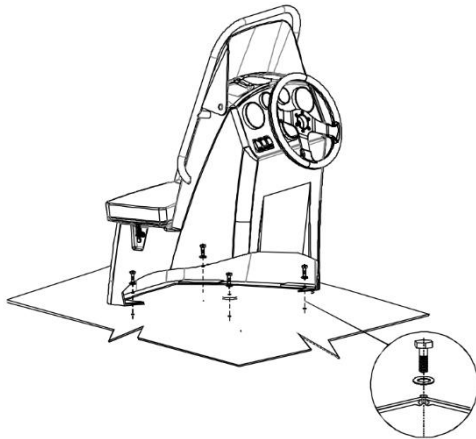

Fig. 8. Installation of steering console CL-11.
- Fix steering console to the deck by means of bolts M8*25 and toothed lock washer (fig. 8).